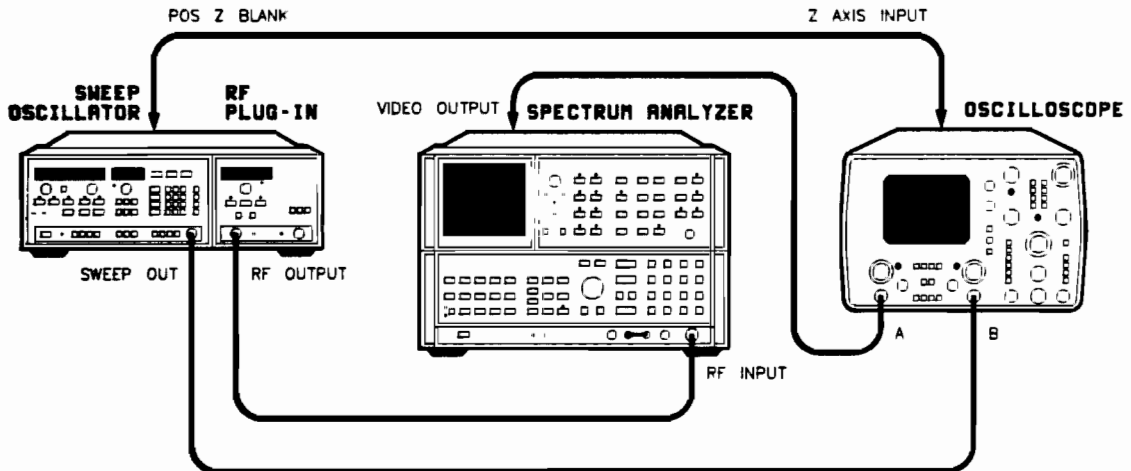

Figure 4-1. Frequency Range and Accuracy Tests Setup
1. Connect the equipment as shown in Figure 4-1, and allow the equipment to warm up for one hour.